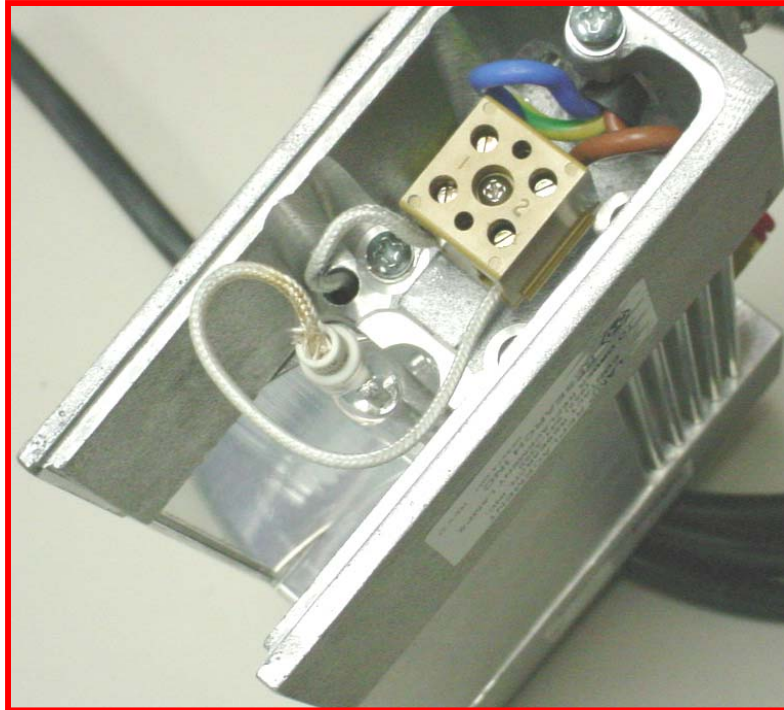

Figure 6-3. Model 5194 Lamp Removal.
4. Loosen (do not remove) the setscrews in the ceramic terminal block on each end of the heater (see Figure 6-3).